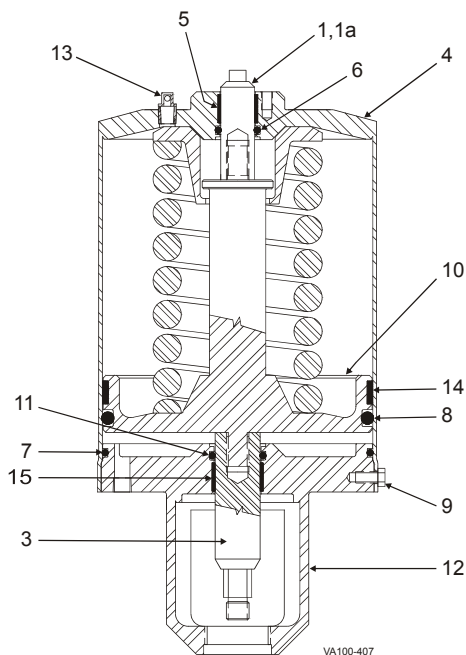

Figure 37: 6" Actuator
1. Inspect the piston o-ring seal (Figure 37, item 8).
2. Remove the worn o-ring seal. Do not score or nick grooves in the piston (item 10).
5. Inspect and replace the PTFE guide bearing (item 14) on the piston as needed.
7. Place the cylinder over the yoke, and install cap screws (item 9) to secure it.